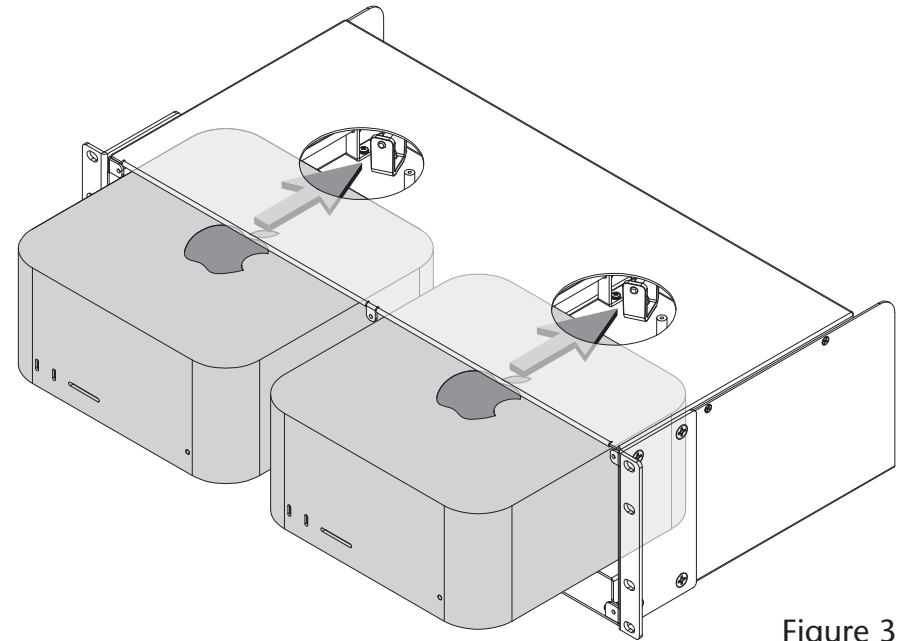

Figure 3
4. Remove a Mac Studio computer from its packaging, and then carefully insert it into the rackmount enclosure as shown. Push the computer in until it stops (**Figure 3**). Repeat this step if you are installing a second computer.